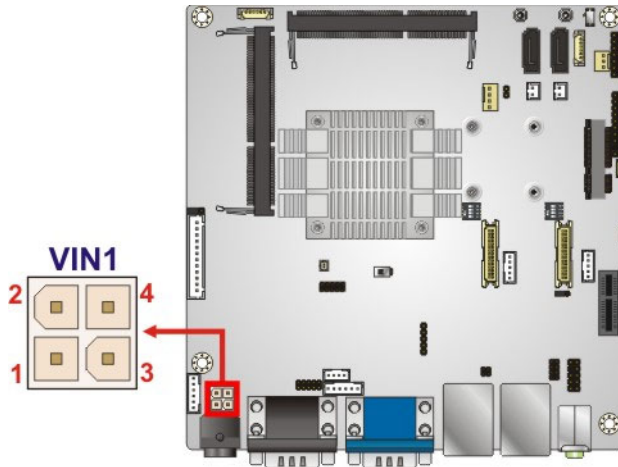

Figure 3-3: 9 V ~ 26 V Power Connector Location
- CN Location:** See **Figure 3-3**